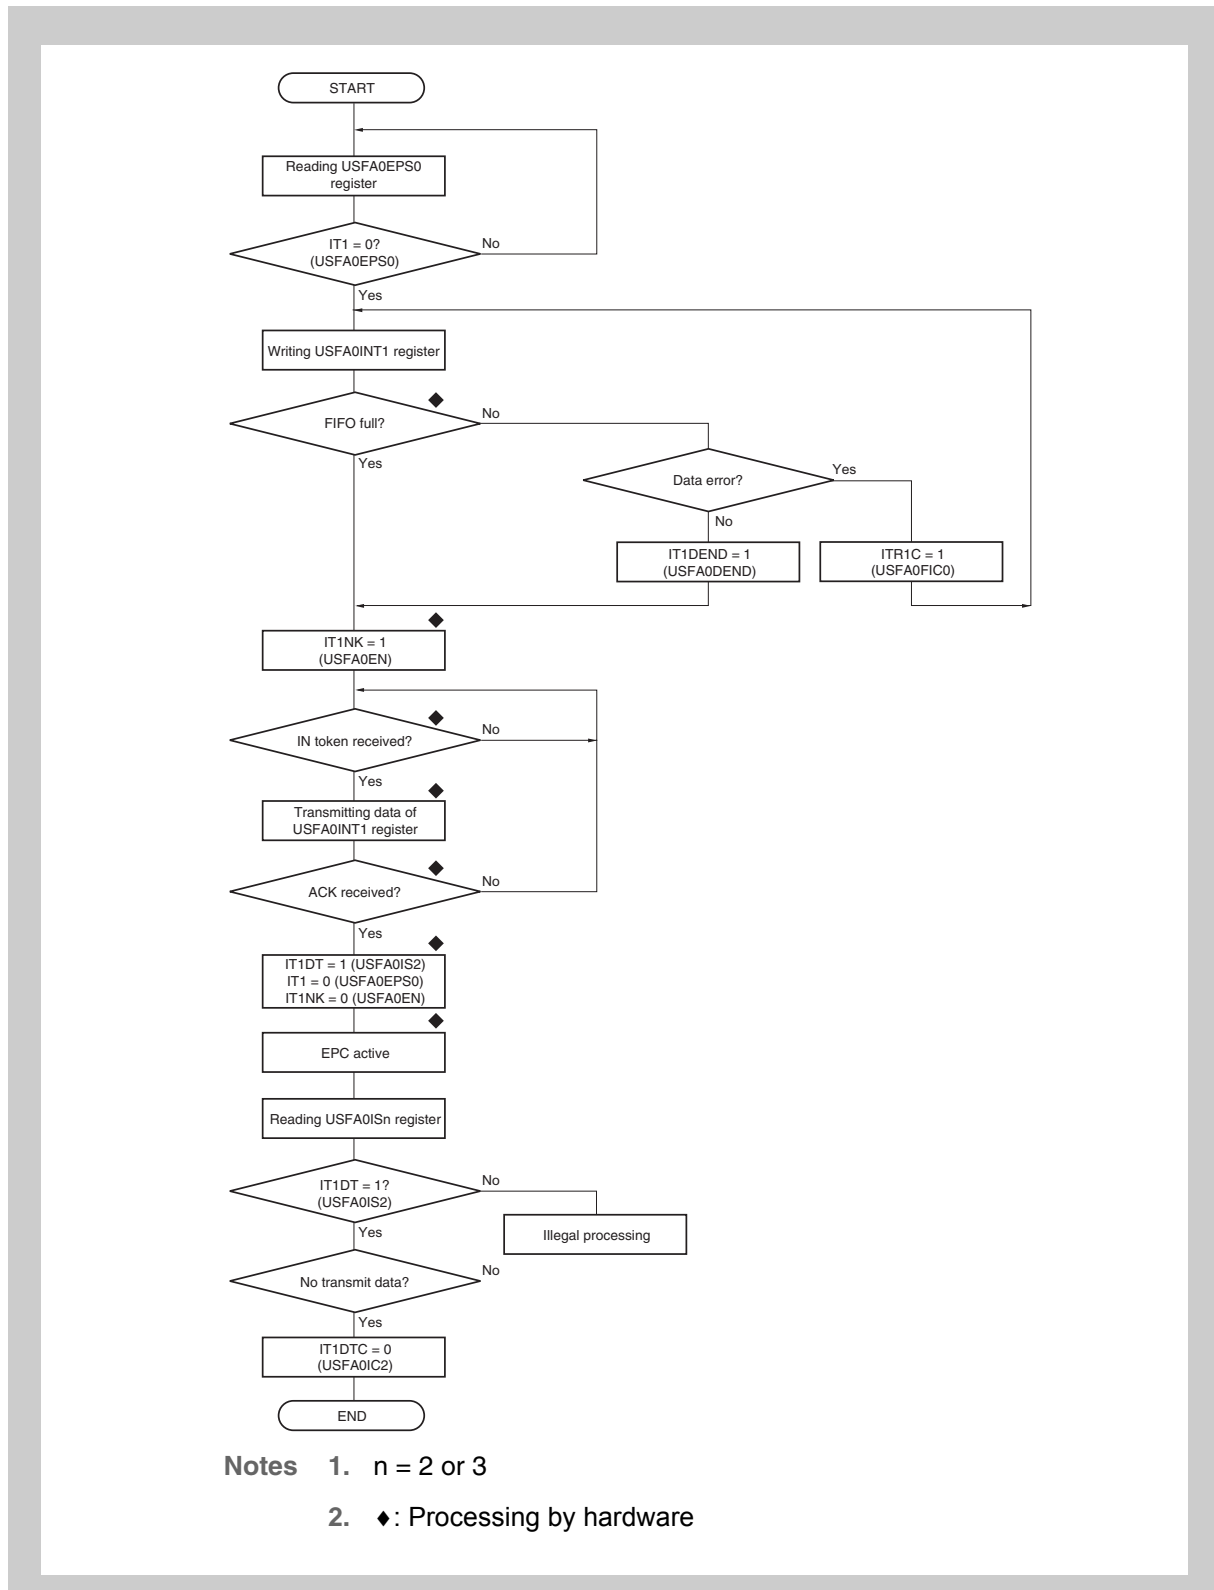

Figure 27-46 Processing for interrupt transfers (IN) (Endpoint7)
(6) Processing for interrupt transfers (IN)
An interrupt transfer (IN) is assigned to Endpoint7. The flowchart in *Figure 27-46 "Processing for interrupt transfers (IN) (Endpoint7)"* shows the related processing.